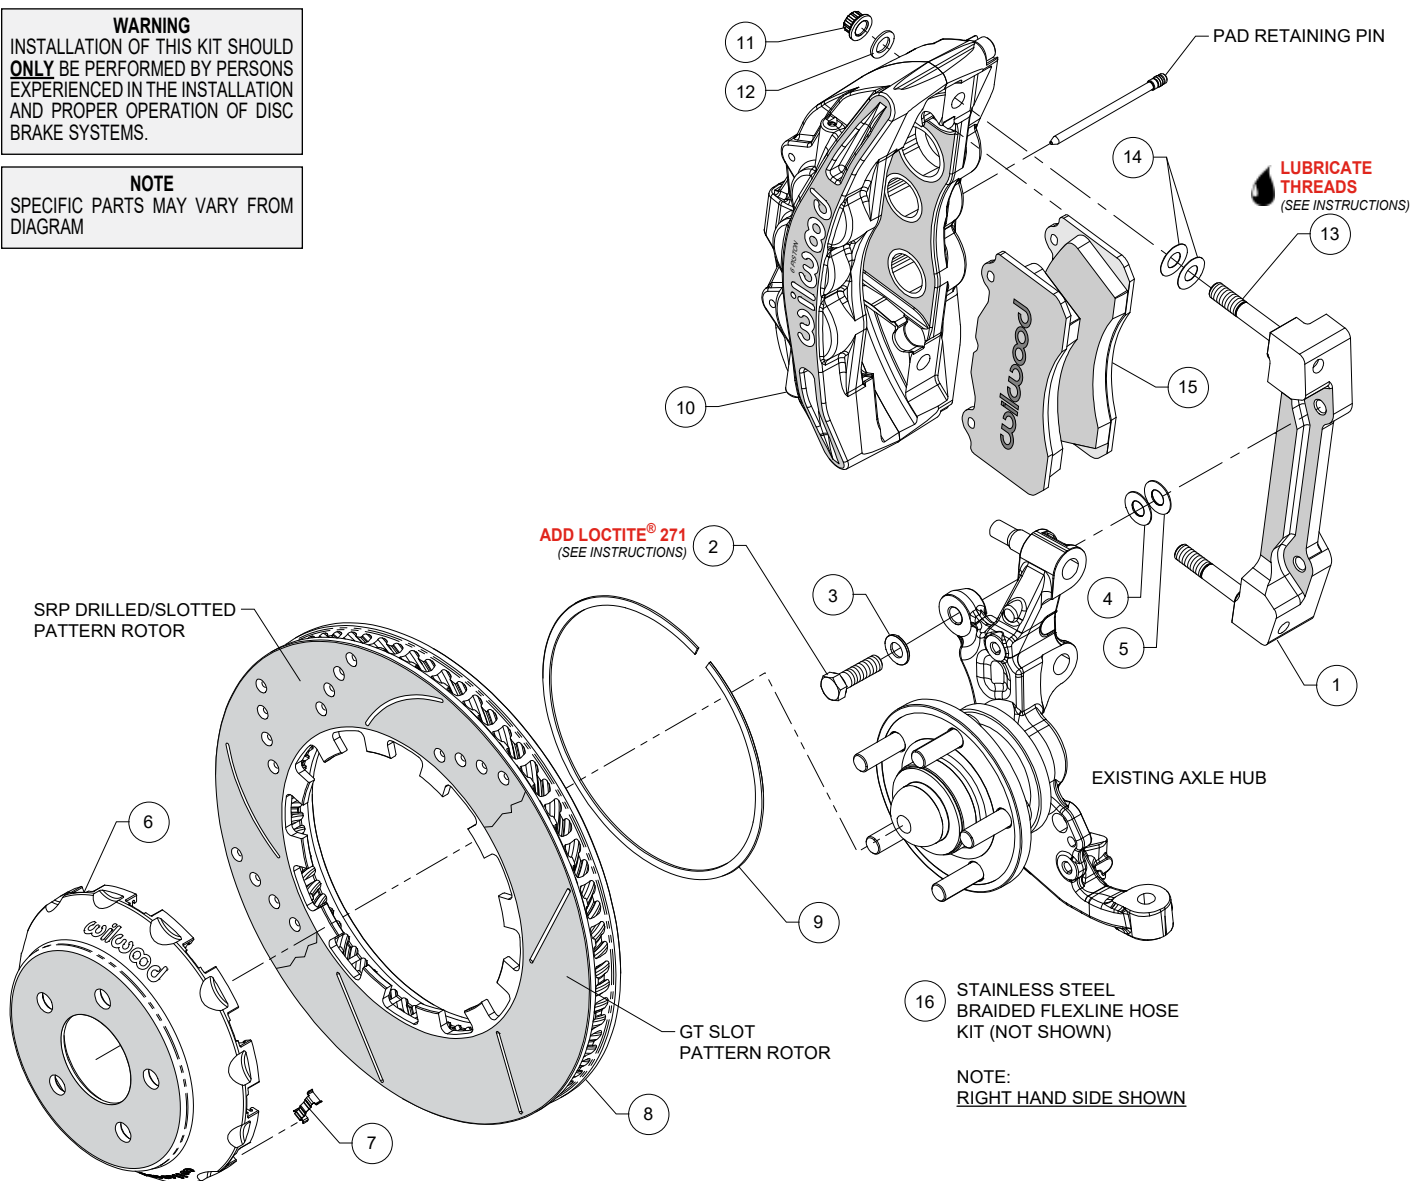

Figure 1. Typical Installation Configuration
NOTE: Numbers in parenthesis refer to the parts list and Figure 1 on the preceding pages.
- The caliper mount bracket (1) should initially be installed with clean, dry threads on the mounting bolts. Orient the bracket, as shown in Figure 1 and Photo 1, and install using bolts (2) and washers (3). Initially place one .033" thick shim (4) on each bolt between the bracket and upright, Figure 1. Temporarily tighten the mounting bolts. **NOTE:** The bracket must fit squarely against the mount bosses on the upright. Inspect for interference from casting irregularities, machining ridges, burrs, etc. Later, after the caliper alignment has been checked, the mount bolts will be secured using red *Loctite*® 271.
- Insert the dynamic mount wear clips (7) into the slots in the hat (6), Photos 2 and 3. Orient the rotor (8) as shown in Figure 1 and Photo 4, with the flush side of mount lugs facing the hat. Secure the rotor to the hat using the snap ring (9) by simultaneously pushing down on the rotor and installing the ring into the groove in the hat, as shown in Photo 5. Carefully inspect snap ring to ensure complete engagement in the groove.
- NOTE:** This kit contains distinct right and left hand calipers that must be mounted in a specific direction, as described below. Lubricate the caliper mounting studs (13) with lightweight oil. Initially place two .015" thick shims (14) on each stud between the caliper and the bracket, as shown in Figure 1 and Photo 7. Mount the caliper (10) onto the bracket (1) using lock nuts (11) and washers (12), Figure 1. Temporarily tighten the lock nuts. Ensure that the caliper is mounted so the largest pistons are at the rotor exit end of the caliper, in relation to the direction of the rotor. View the rotor through the top opening of the caliper. The rotor should be centered in the caliper, Photo 8. If not, adjust by adding or subtracting shims (4 and/or 5) between the bracket and the upright. Always use the same amount of shims on each of the two mounting bolts. Once the caliper alignment is correct, remove the bracket mounting bolts (2) one at a time, apply red *Loctite*® 271 to the threads, and torque to 60 ft-lbs.
- Remove the two pad retaining pins from the caliper (10) by pushing out the pins from the tapered end using a blunt instrument. Insert the brake pads (15) into the caliper from the bottom, Figure 1 and Photo 9. With the friction material facing the rotor, secure the brake